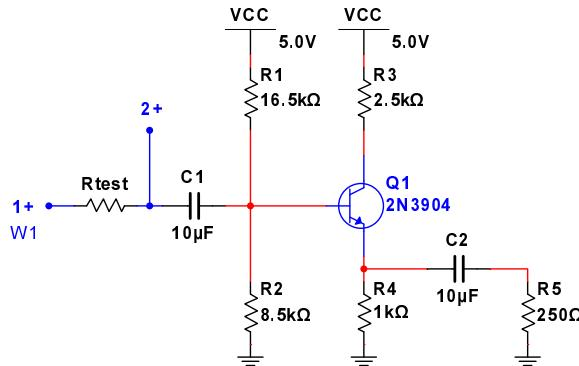

Figure 17: Amplifier setup for input resistance measurement
- Insert a test resistor (R_{test}) that is close to the calculated value of the input resistance R_i as in Fig. 17
- Connect **W1**, **1+** and **2+** as shown in Fig. 17, **1-, 2-, ↓** to **ground**